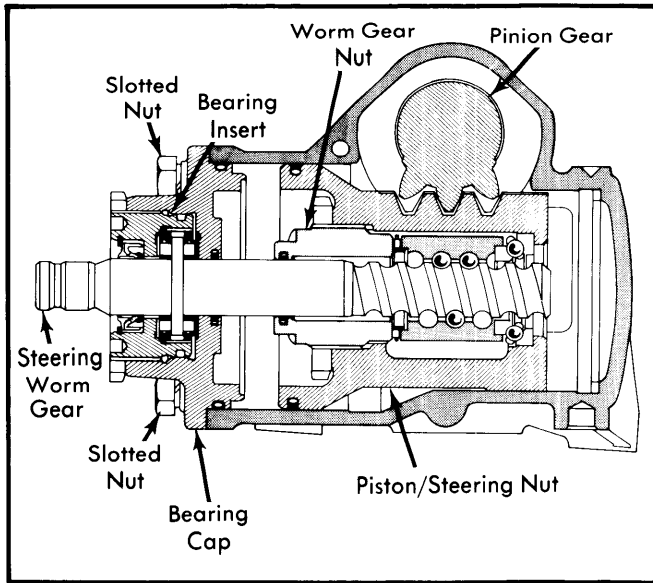

Fig. 9 Cross-Sectional View of Steering Gear
12) Remove lock ring, cover and control valve from steering gear case. See Fig. 9.